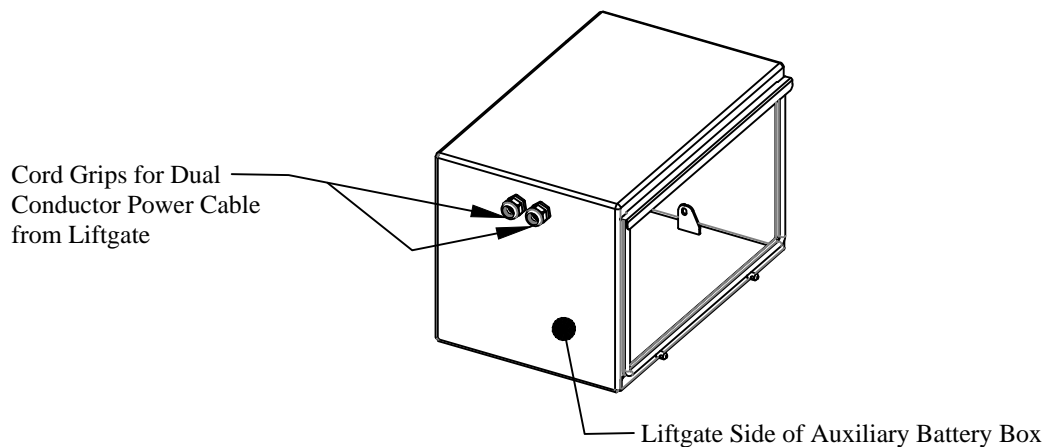

Figure 12: Locations of rear most cord grips.
- Route** both the positive (+) and negative (-) leads from the liftgate through the cord grips at the liftgate side of the auxiliary battery box (Figure 12).